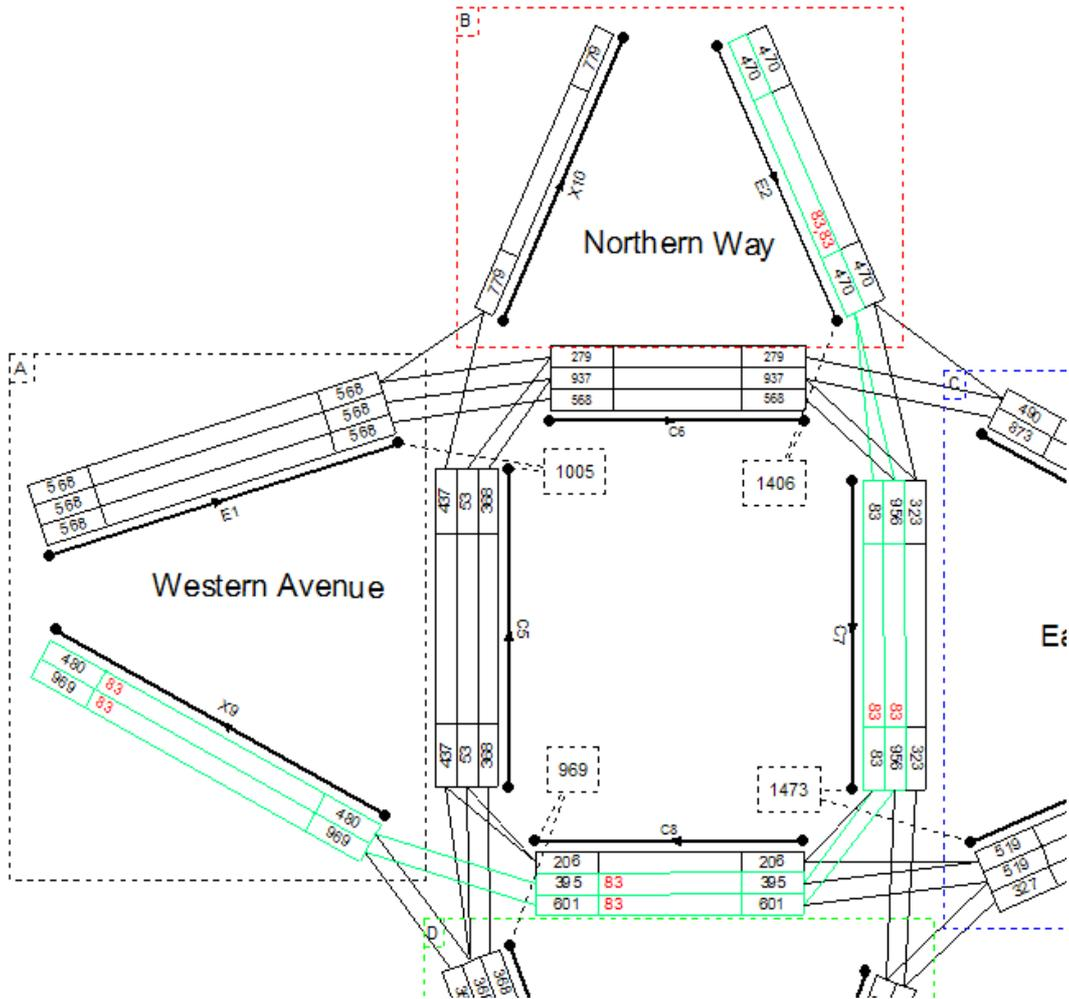

Figure 4.19 : Lane Flow Components for Traffic from Zones B to A
- Using the tutorial example at the end of Step 6, open the Network View and set the Route Filter to display Routes between Zones B and A. Figure 4.19 shows that two Routes, each carrying 83 pcu, travel from Zone B's Arm E2, Lane 2 to Zone A. FlowRound's Automatic Entry Lane Flow Balancing has split this flow equally as it has no information to do otherwise.